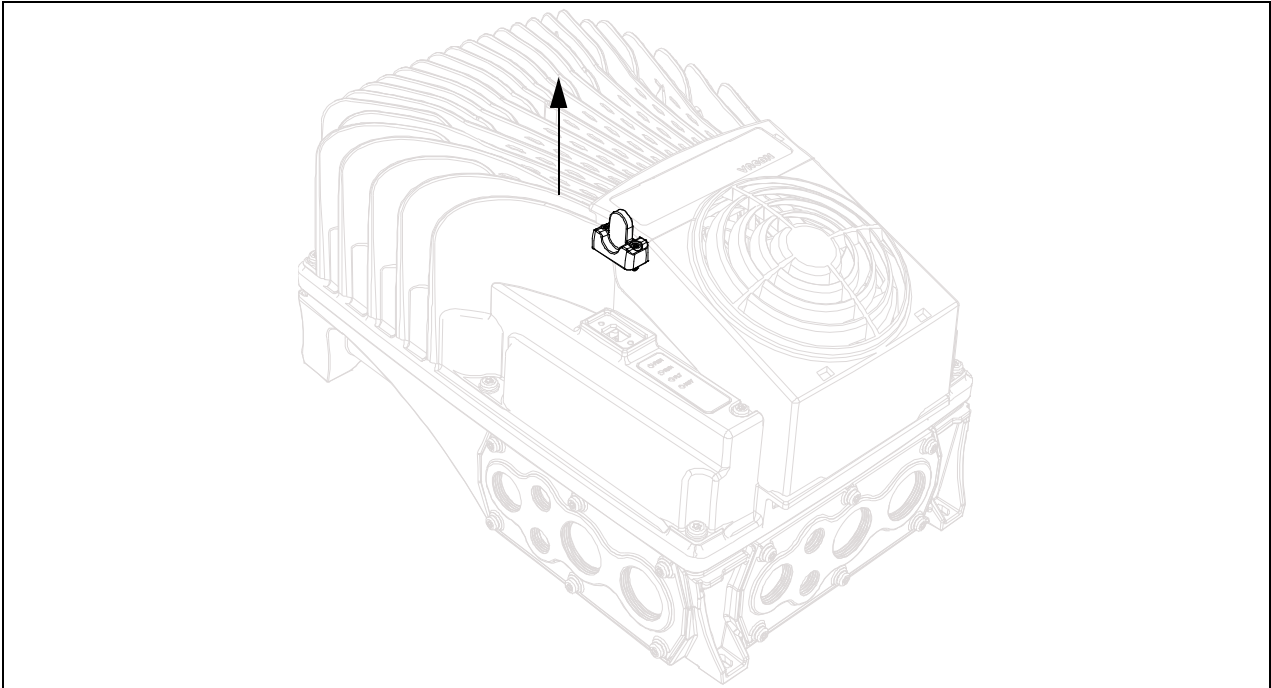

Figure 51. Disconnection of the HMI cap from the drive
- Remove the HMI cap from the drive as shown in the Figure 51.